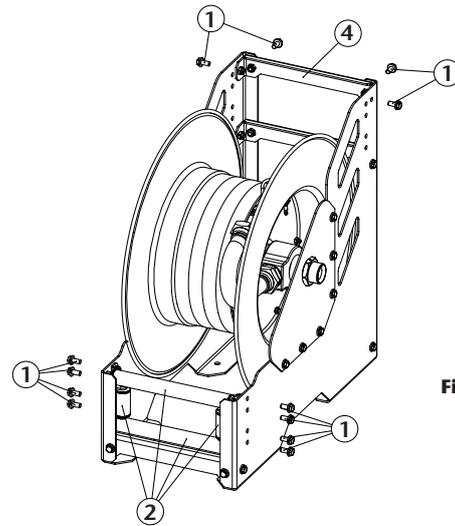

Fig. 1
3. Unscrew the bolts (1), take out the hose outlet rollers (2) , and disassemble the crosspiece (4) (fig. 1).